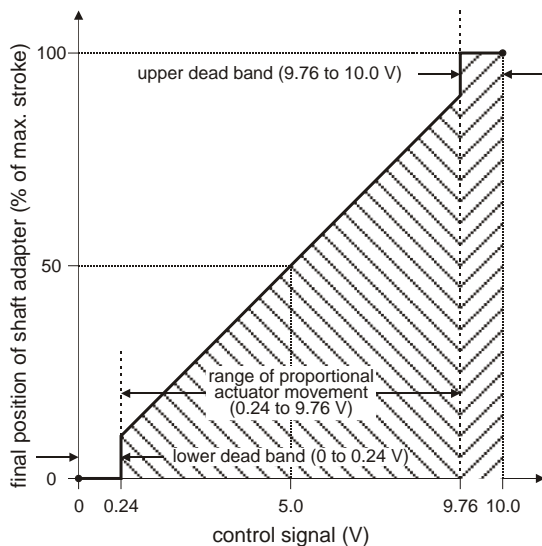

Fig. 4. Final actuator position in dependence upon control signal (example selection setting of 0...10 V)
- The control signal's value rises up into the upper dead band (i.e. to more than the max. control signal minus 0.14V) or drops down into the lower dead band (i.e. to less than the min. control signal plus 0.14V), and if the shaft adapter can remain at the respective (upper or lower) mechanical end limit at least 3 seconds, the actuator will recognize the new position automatically, and auto-adaption is happened (see Fig. 4).